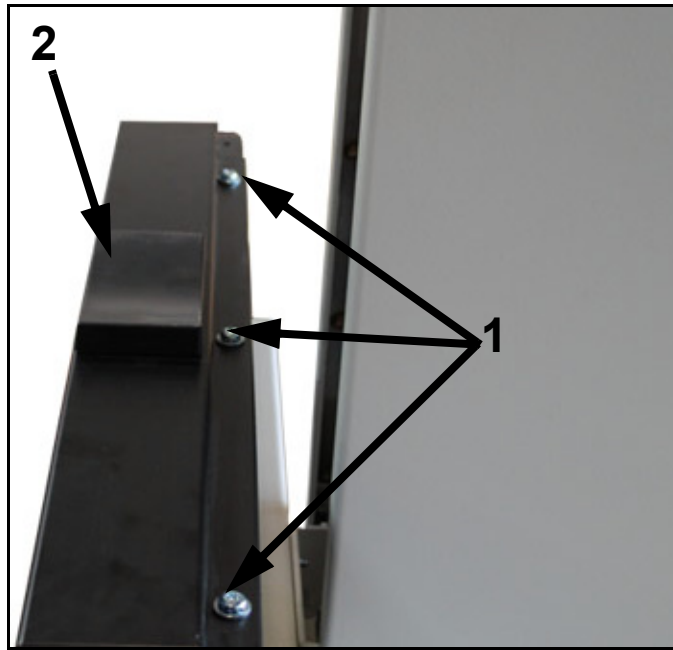

Figure 2-20. Upper Bracket Screws
- 19** Fasten the 3 screws (1 in Figure 2-20) that hold the chin rest (2) in place.